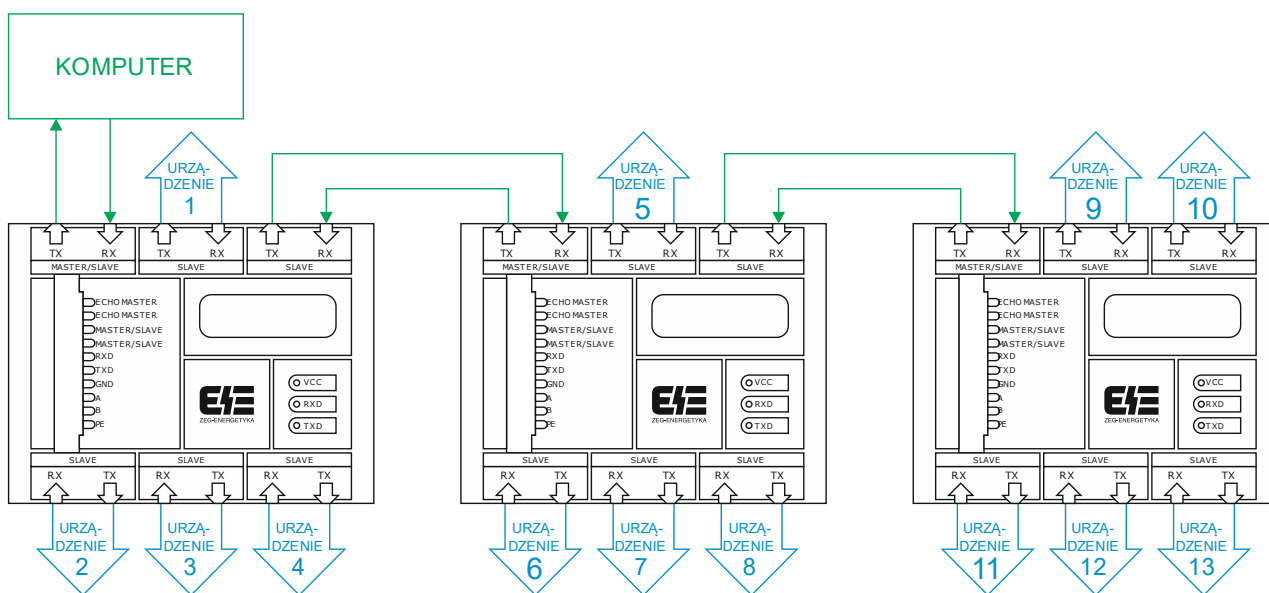

Fig. 2. Wiring diagram of connection of OPG-6 devices in loop with ECHO OFF
- OPG-6 MASTER port with ECHO OFF. In this solution in next OPG-6 devices, the number of possible SLAVE ports is reduced by one (Fig. 2)